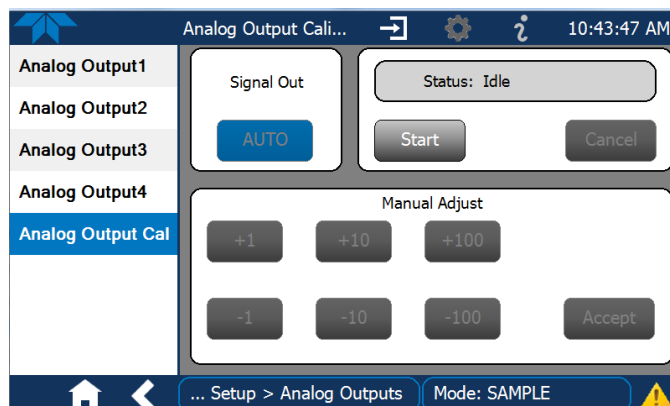

Figure 2-51. Analog Outputs Group Calibration Screen
- AUTO for group calibration (Figure 2-51) of the analog outputs (cannot be selected when Current is selected for the Range)